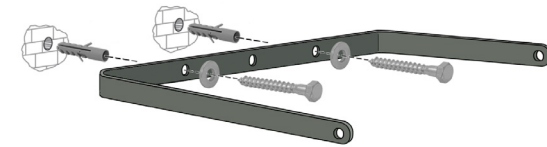

fig. 2
2. Hold bracket against the wall and mark drill points, drill the holes, insert the dowel. Use suitable material for wooden walls or lightweight walls. Fasten the bracket with screws and washers (fig.2).